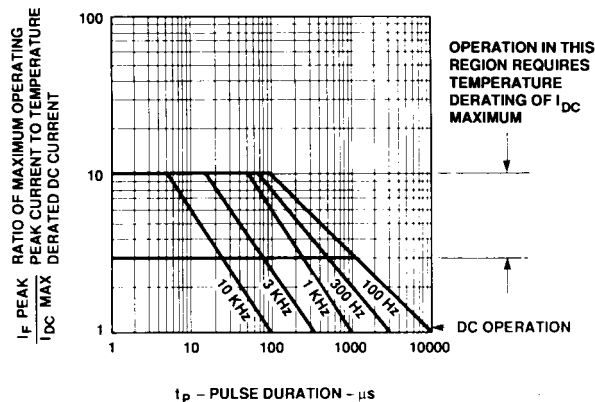

Figure 7. Maximum Tolerable Peak Current vs. Pulse Duration - HER Series.
- See Figure 7 to establish pulsed conditions.